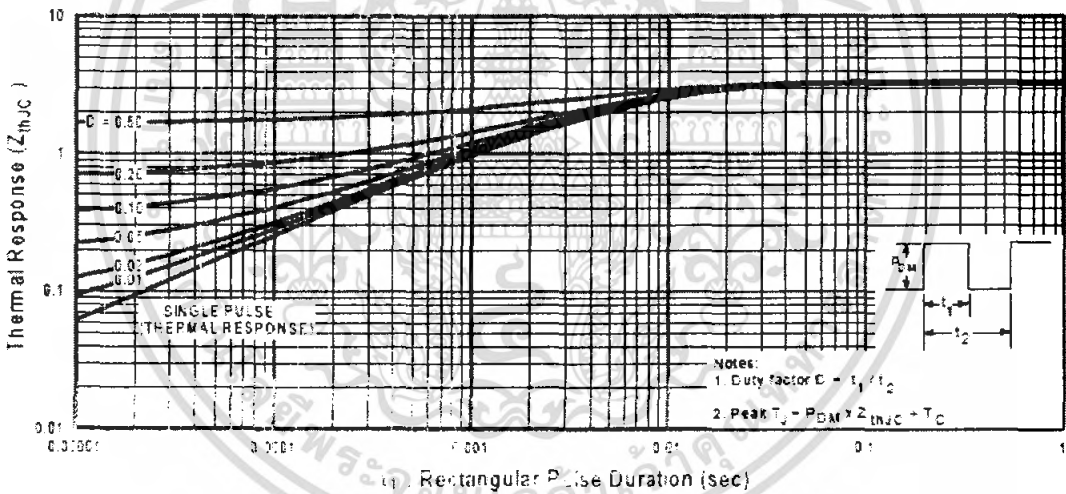

Fig 11. Maximum Effective Transient Thermal Impedance, Junction-to-Case
- ① Repetitive rating; pulse width limited by max. junction temperature. (See fig. 11)
- ②  $I_{SD} \leq 10A, dI/dt \leq 280A/\mu s, V_{SD} \leq V_{(BR)DSS}, T_J \leq 175^\circ\text{C}$
- ③ Pulse width  $\leq 300\mu s$ ; duty cycle  $\leq 2\%$